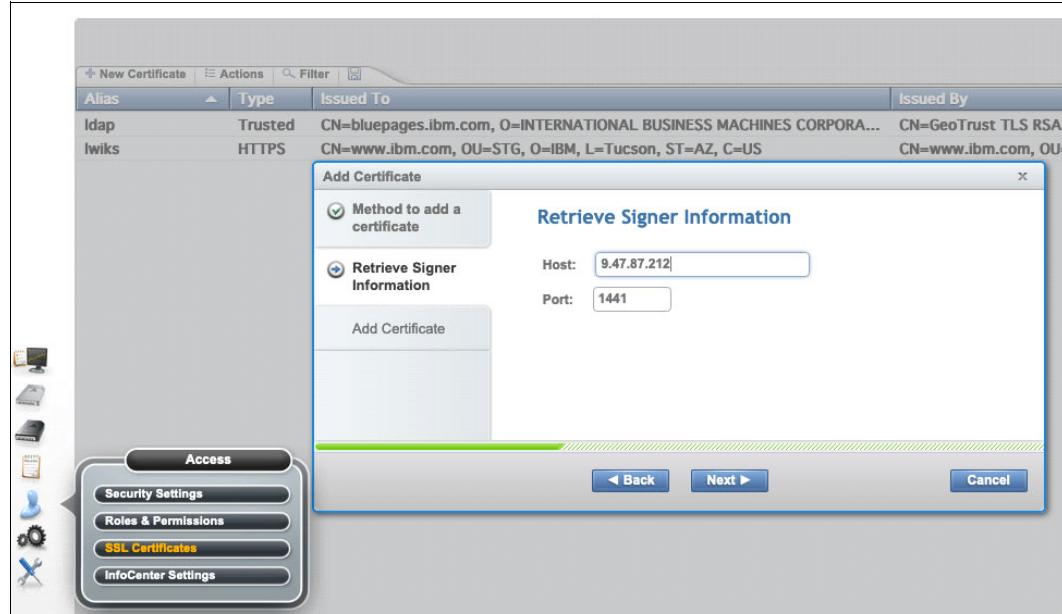

Figure J-9 Retrieving signer information
3. In the **Retrieve Signer Information** tab, enter the IP or DNS style name of the target IBM Security Guardium Key Lifecycle Manager server in the **Host** field, as shown in Figure J-9 on page 1051. Consult with your IBM Security Guardium Key Lifecycle Manager administrator to verify the port in which the target server accepts TLS/SSL traffic (the protocol that is used for this connection). Because different IBM Security Guardium Key Lifecycle Manager setups can be configured differently, the default value (port 443) might not be correct for many cases.